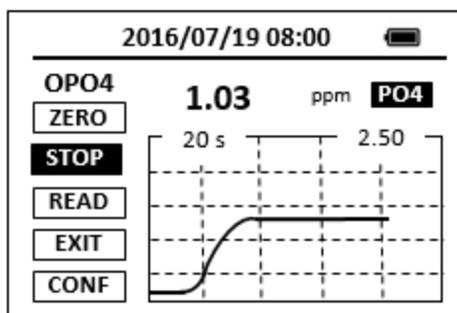

Figure 15. Concentration as a Function of Time
3. Place sample vial back into the sample vial compartment and press the timer button **TMR1**. The SP-910 will start to monitor the reaction between the reagent and the species you want to measure in the water sample. The concentration is shown in the chart as a function of time (Figure 15).
In order to show the concentration-time curve as shown in Figure 15 during the last timing step, The SP-910 must be zeroed using the prepared blank before the last timing step. Thus, the last timer button will not be selectable until the SP-910 has been zeroed using the prepared blank. Multi-timing step Hach® methods require zeroing the colorimeter using the prepared blank after the last timing step is completed. The SP-910 can optionally be re-zeroed using the prepared blank after the last timing step. The blank value measured will be subtracted from the concentration value measured at the end of the last timing step. Optionally, the **READ** button could be pressed to read the prepared sample again.
3. Place the prepared sample into the SP-910 sample vial compartment and press the **TMR2** button to start the second timer. The SP-910 will display the measured concentration as a function of time as shown in Figure 15.